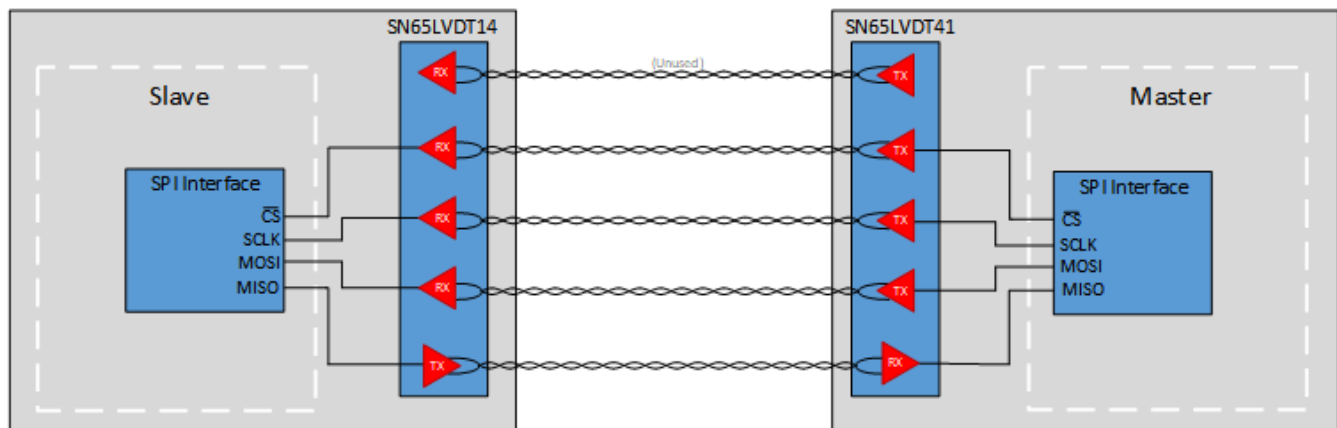

Figure 18. Typical SPI Application With LVDS
SPI operates in a master-slave architecture, with four unidirectional signal lines. The master supplies data named Master-Out-Slave-In (MOSI), a clock (SCLK), and a optional Chip Select (CS) signal to control the operation of the system with multiple slave devices. The MOSI, SCLK, and \overline{CS} signals are unidirectional from the master device to slave devices. The serial data from slave to master device is a unidirectional signal named Master-In-Slave-Out (MISO). The flow of data can be seen in Figure 18.